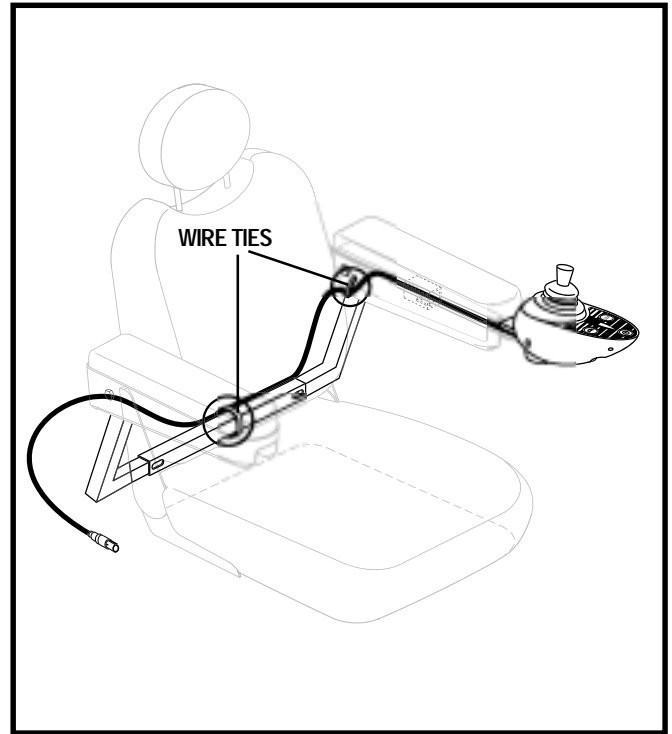

Figure 13. Remote Plus Controller Routed on a Contour Seat
8. Secure the controller cable to the armrest receiver with wire ties (contour seat only). See figure 13.